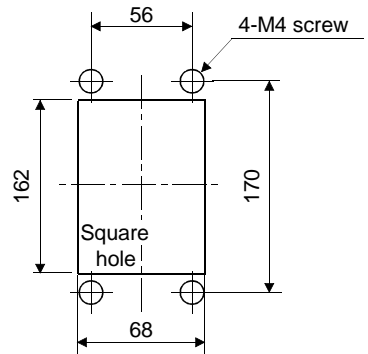

Fig. 3 Embedding Dimensions
- (1) Cut the mounting panel to the mounting hole dimensions in Fig. 3.
- (2) Take off the mounting screws (4 screws) in the controller front panel, and remove the mounting feet.